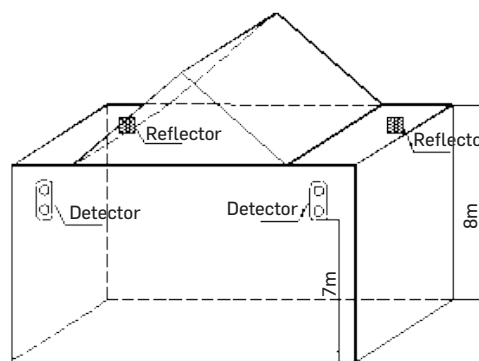

Fig.5
c) As the space height is over 8m, the roof is normally gabled, without ceiling. In this case, the detector and reflector/s should be mounted on the walls which are opposite, having about 7m from the floor and over 0.5m from the top. Refer to Fig. 5.